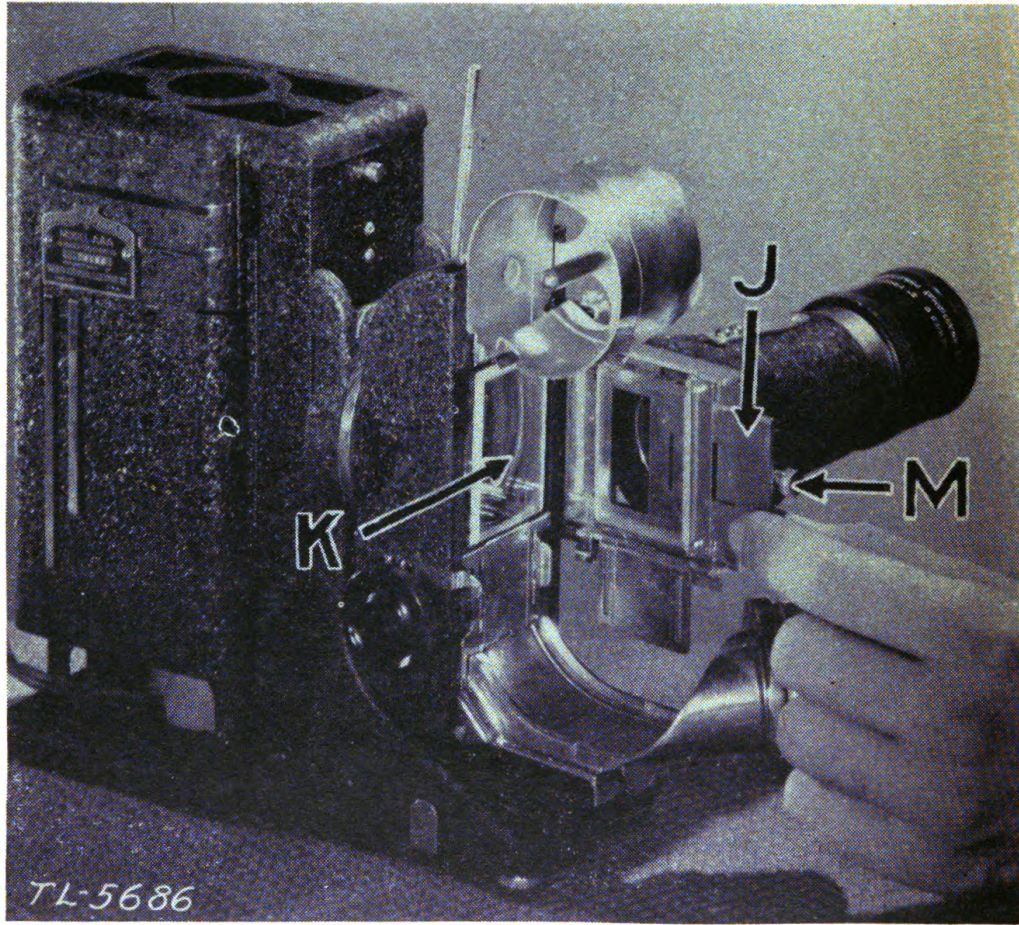

FIGURE 74.—Removing front aperture gate.
d. To project double-frame film strips, remove front aperture mask *J* by grasping the metal edge and sliding it completely out of mask frame (fig. 74). When using horizontal pictures, turn the projector head 90° .
23. Use of slide carrier.—*a.* For projecting 2- by 2-inch slides, open the film gate and remove front aperture mask frame by pulling knob *M* (fig. 74) on frame to right and away from film gate.
b. Remove rear aperture glass *K* (fig. 74) by grasping its sides and lifting lower end from trough.